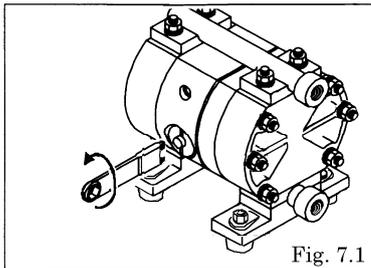

Fig. 7.1
- Remove the cap using the cap remover (special tool: Part No. 771132). [Fig.7.1]